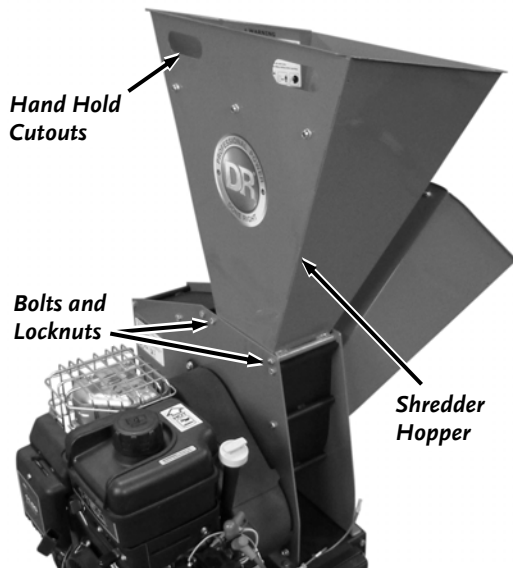

Figure 3
1. Position the Shredder Hopper onto the Power Unit with the hand hold cutouts facing the engine side (**Figure 3**).